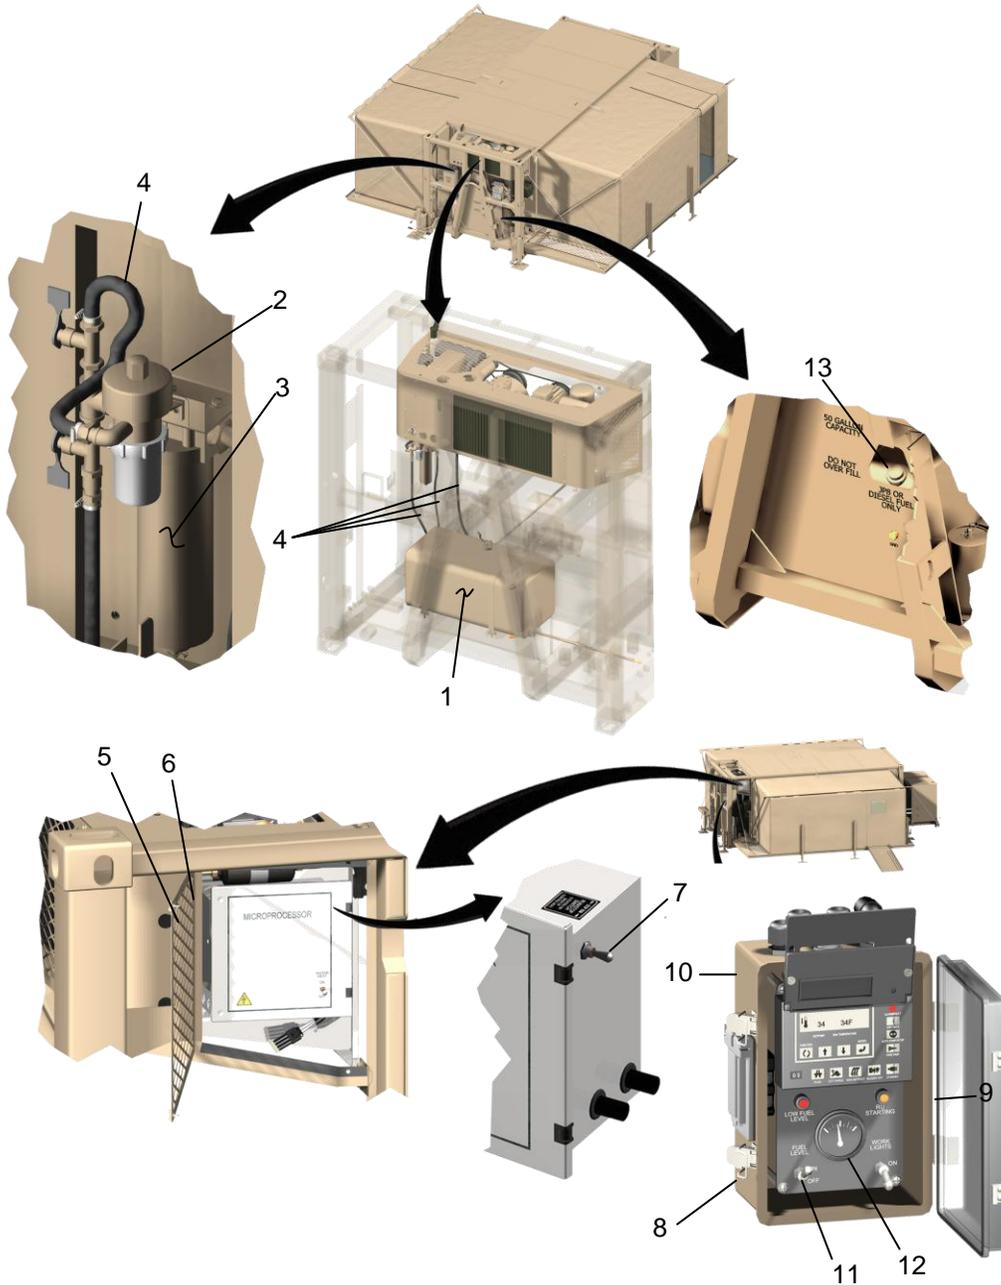

Figure 1. Transport Mode, Before PMCS Item 1.
8. Close refrigeration service access door (Figure 1, Item 6) and secure with 1/4 turn fasteners (Figure 1, Item 5). Ensure cap (Figure 1, Item 13) is screwed on tight.	Cap is loose or missing.